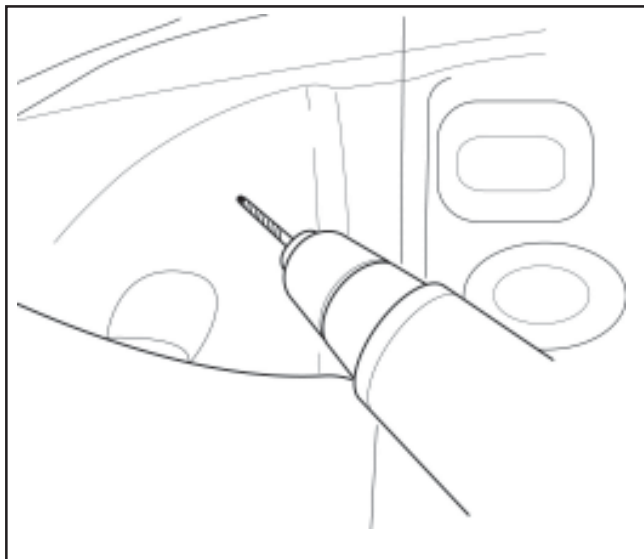

Fig. 4
5. Using a 3/16" drill bit, drill holes in both locations. (Fig. 4)